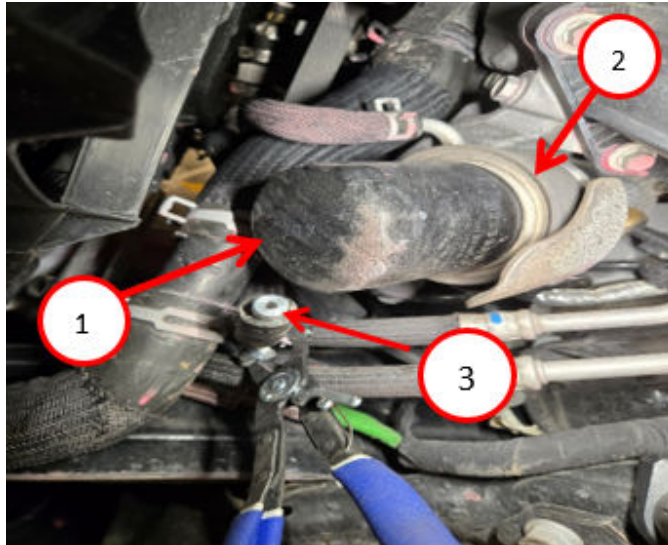

Fig. 5
10. Remove and **DISCARD** the engine oil filter from the engine oil cooler Fig. 5.
11. Replace the engine oil cooler Fig. 5. Refer to the detailed service procedures available in DealerCONNECT/Service Library under: Service Info> 09 - Engine, 5.7L / Lubrication / Cooler and Lines, Oil / Removal and Installation.